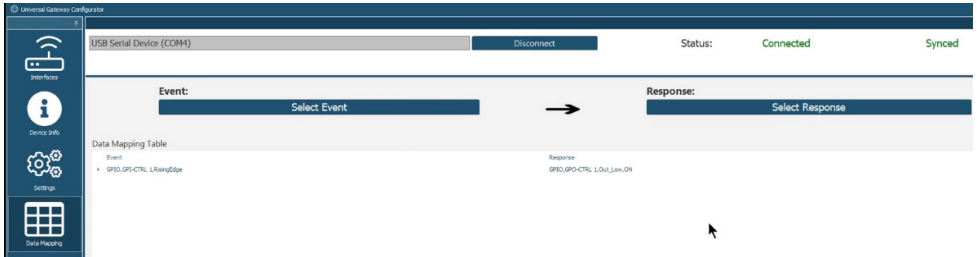

Figure 26
1. Right click on the entry in the Data Mapping Table that needs to be edited. See Figure 26 above.